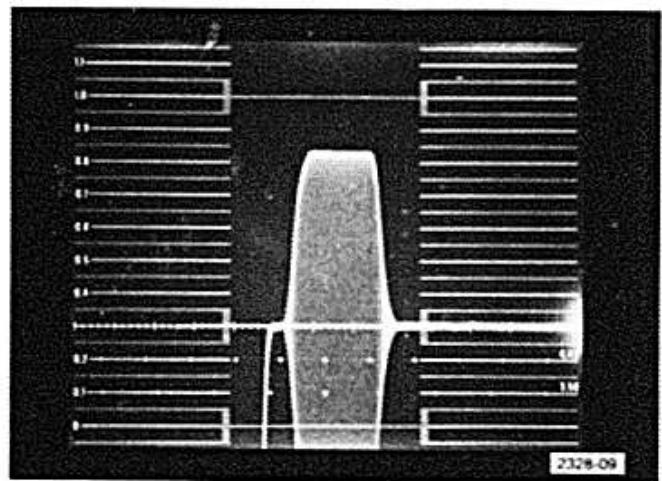

Fig. 4-1. Proper Shaping of the U Burst Envelope.
c. CHECK—for good shaping of the burst envelope. See Fig. 4-1.